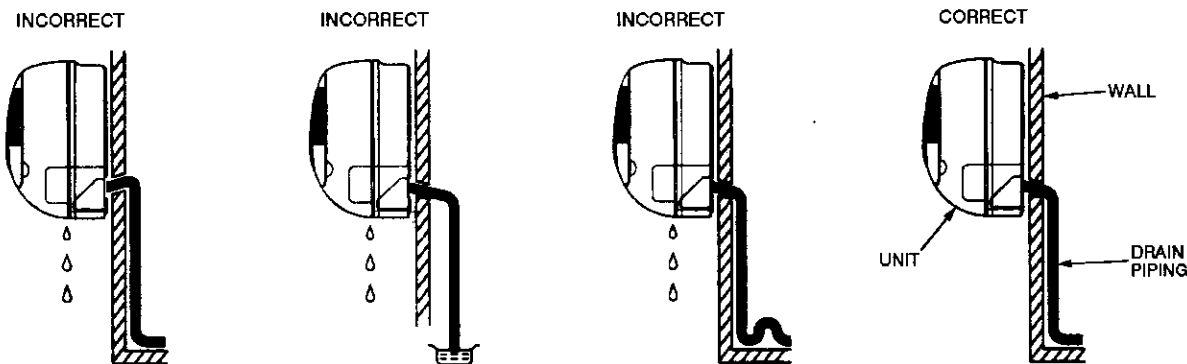

Fig. 10 — Fan Coil Unit Drainage System (Rear Piping Shown)
2. To ensure regular flow of condensate water, the drain pipe should be pitched toward an open drain or sump at a downward slope of at least ¼-in. per ft. Refer to Fig. 10.